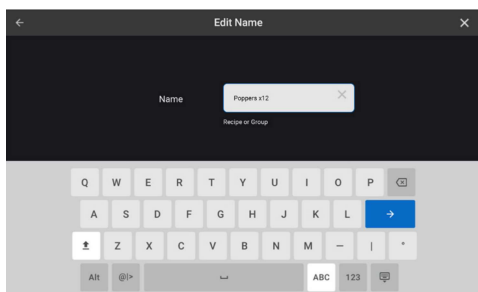

Figure 27: New Recipe Name
5. Input the recipe name and touch the blue arrow button to continue (Figure 27, below).